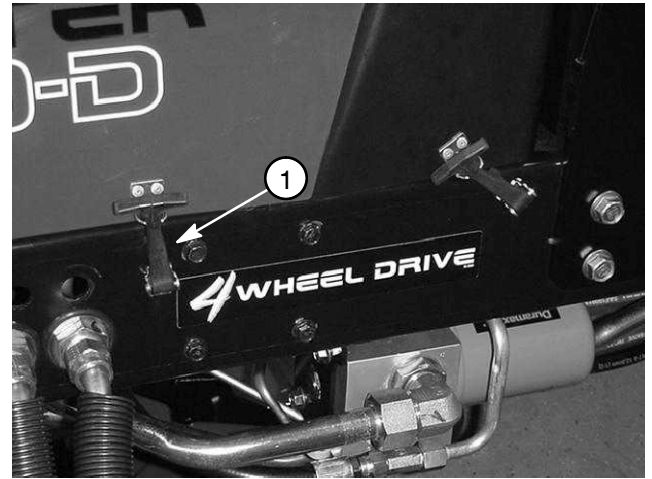

Figure 11
2. Release hood latches (Fig. 11) and raise hood.
2. Secure hood to frame with latches (Fig. 11).